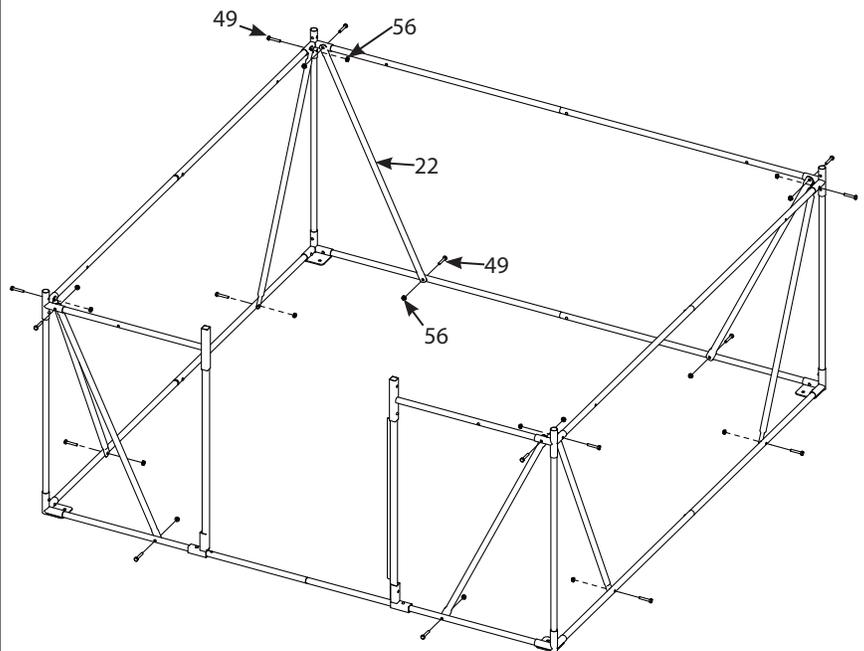

FIGURE 4
4. Attach each of the eight (22) poles to the bottom and middle tiers of the blind frame using two 1/4-20 X 1-1/2 IN bolts (49) and 1/4-20 nuts (56). **SEE FIGURE 4.** Pay attention to the orientation of the bolts! The head of the bolt must be on the outside of the frame. This helps prevent wear on the skin when fully assembled.